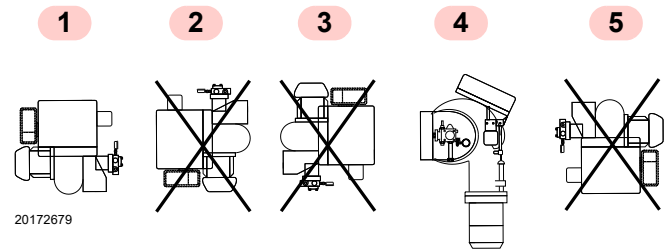

Fig. 9
- The burner is designed to work only in positions **1** and **4** (Fig. 9).